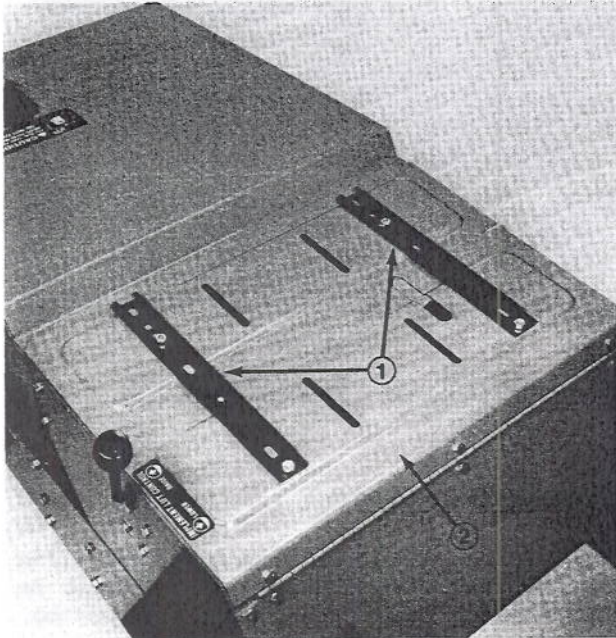

Figure 3
2. Remove lower seat slides and position on seat plate the same way as positioned on seat (Fig. 3).